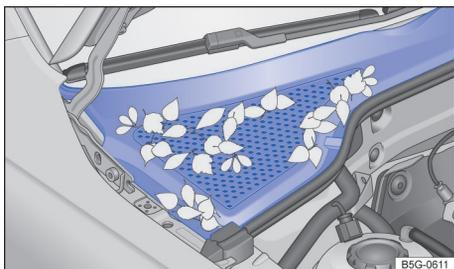

Fig. 189 Between the engine compartment and the windscreen: plenum chamber (schematic representation).
- The plenum chamber is located in the engine compartment between the windscreen and the engine and has a perforated cover → Fig. 189. Air from outside is drawn in from the plenum chamber and is passed into the vehicle interior via the heating and fresh air or the air conditioning system.